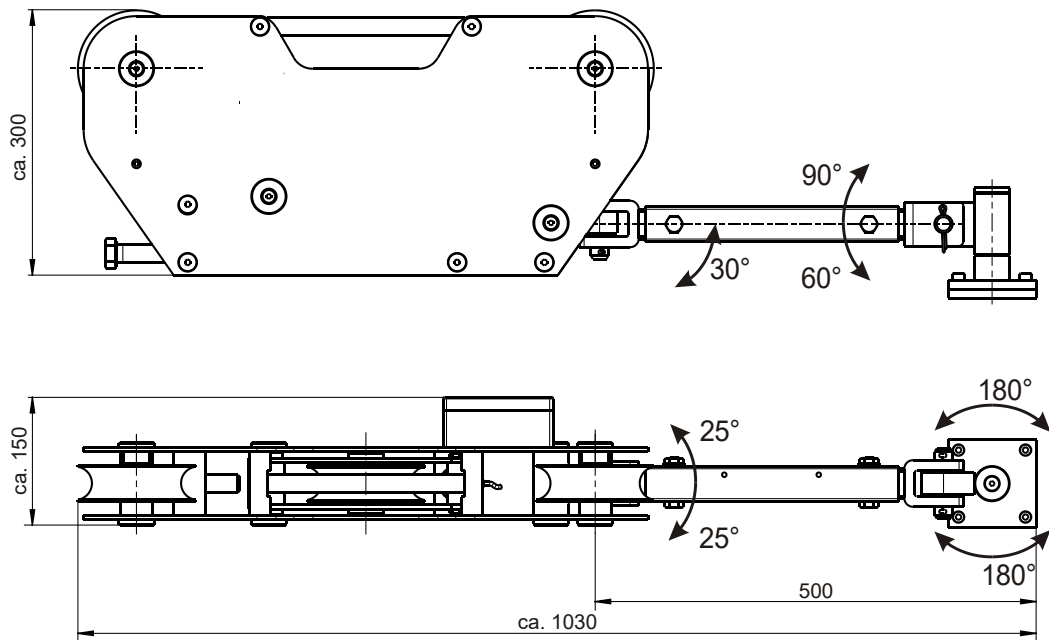

Figure 5: KSW-3R and the XKM 078.01 mounting unit
- The freedom of movement of the XKM 078.01 mounting unit for the KSW-3R38 is shown in Figure 5.